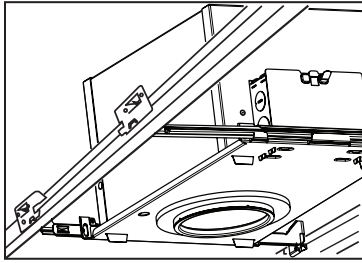
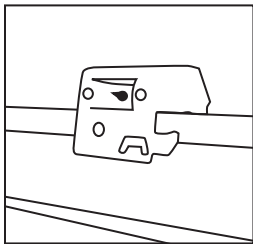

Figure 6
Figure 7
Step 3. Place fixture into position and snap bar hanger foot with integral T-bar clips onto T-bars (Fig. 6). Additional holes provided for securing with wire or screws (Fig. 7).